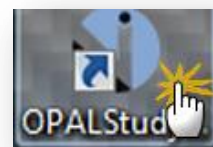

Figure 1
1. Click on the Opal Icon on the Desktop. **Figure 1**